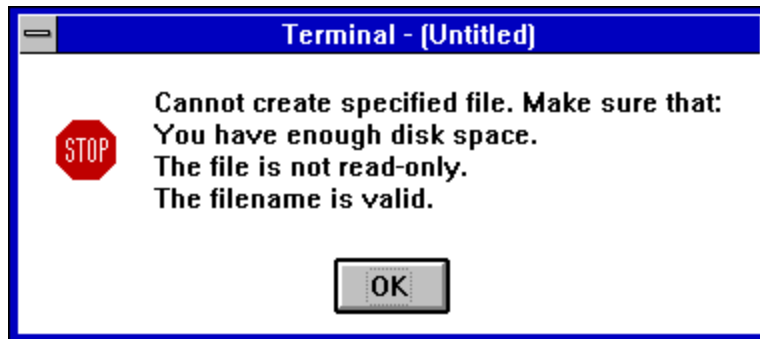

Figure 8.6 Non valid file name error message
**Errors:** If the setup file does not get an extension, the file will not be transferred, and the error message in Figure 8.6 appears. Click OK, and try again with the correct spelling.